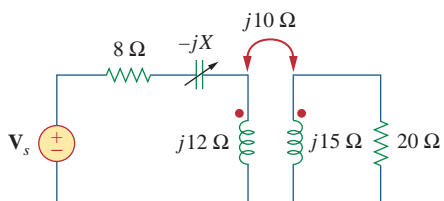

Figure 13.97
***13.28** In the circuit of Fig. 13.97, find the value of X that will give maximum power transfer to the 20-Ω load.